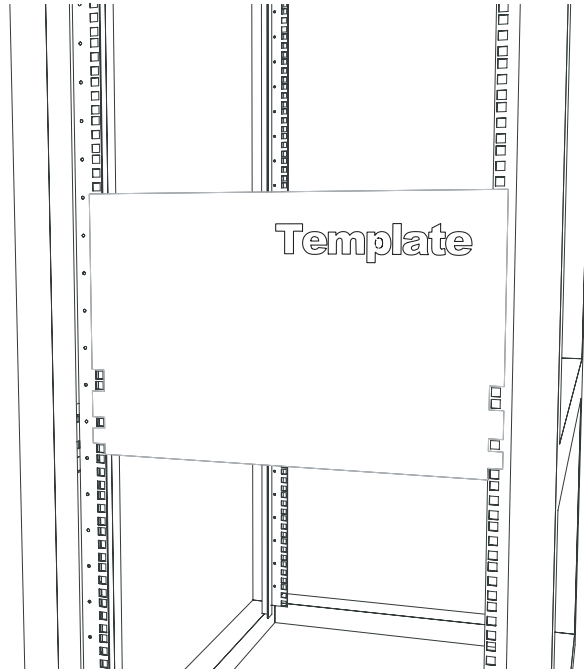

Figure 2-1. Positioning the Template
2. Position the template at the front of the system to determine the locations of the screws for the chassis rails (see Figure 2-1).